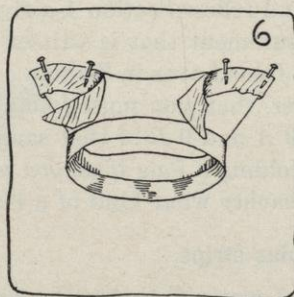

FIG. 6.
- (5) Remove the pins from both ends of the bias strip so that there will be about $2\frac{1}{2}$ inches of material hanging loose on each side (see Figure 6). This gives just enough room to join the seam without removing the entire strip from the edge of the brim.